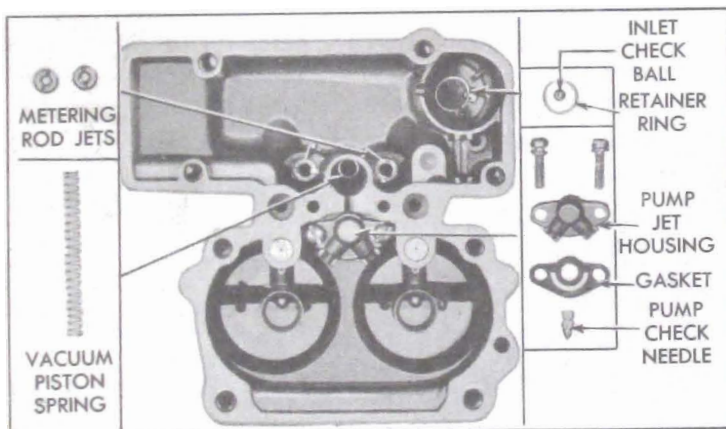

Figure 3-34—Main Body Parts
9. Remove air horn gasket from main body. Remove pump plunger assembly and lower pump spring. Remove vacuum piston spring. See figure 3-34.
11. Remove pump inlet ball check retainer using Remover T 109-56 or a stiff wire having a short hook on the end. Remove both metering rod jets. Remove pump jet screw, jet housing, and gasket. Invert carburetor and catch pump inlet check ball and outlet check needle. See figure 3-34.